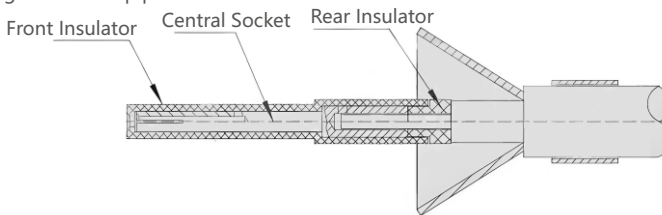

Figure 1.5
⑤ Then, install the front insulator onto the central socket as shown in Figure 1.5, and make the tail of the front insulator tightly abut against the step part of the rear insulator.